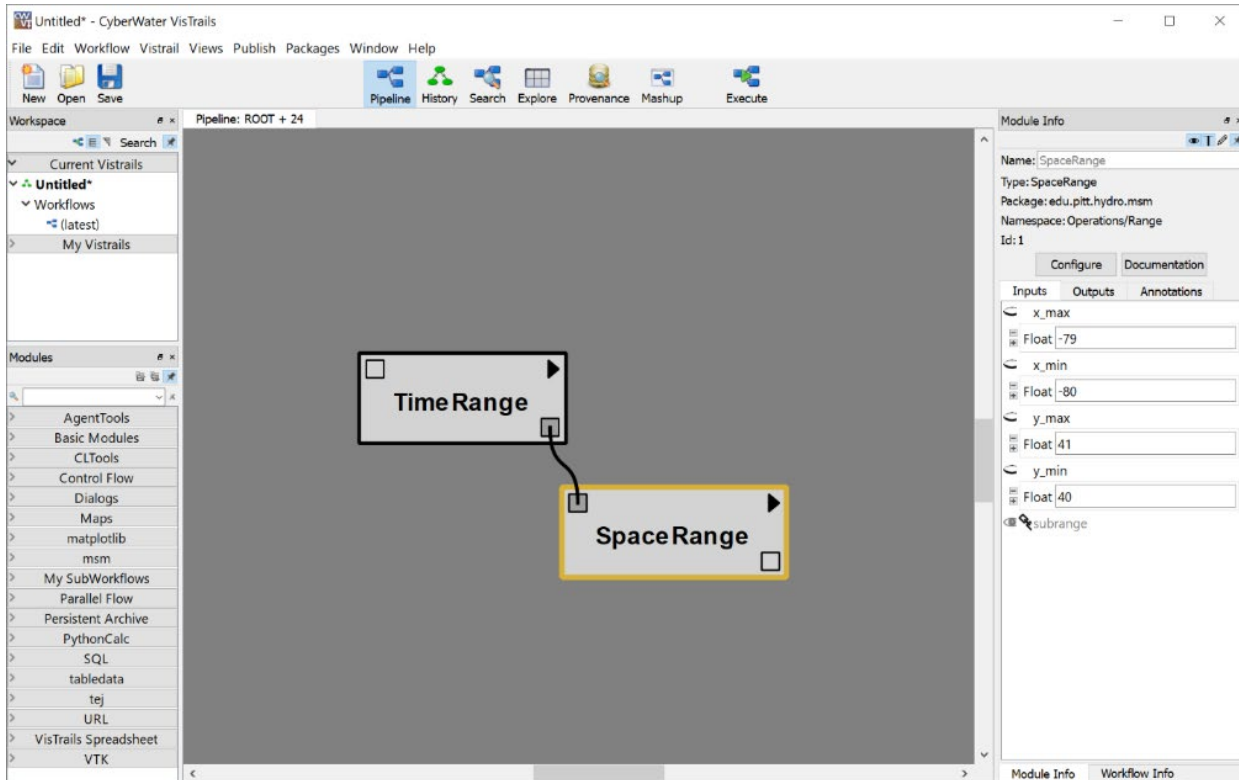

Figure 69. Time and Space Range setup for the execution of the One-Layer Water Balance model
- Add a *SpaceRange*2 box with the same limits as: -79,-80,41, 40 (x\_max, x\_min, y\_max, y\_min respectively). Connect the 'timerange' output of the *TimeRange* box with the 'subrange' input of the *SpaceRange* box, as shown in Figure 69.